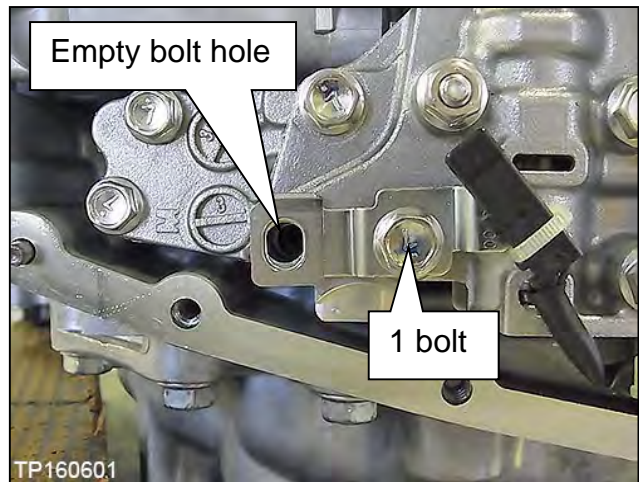

Figure 26
14. Install the CVT fluid temperature sensor bracket to the valve body with one (1) bolt (Figure 26).